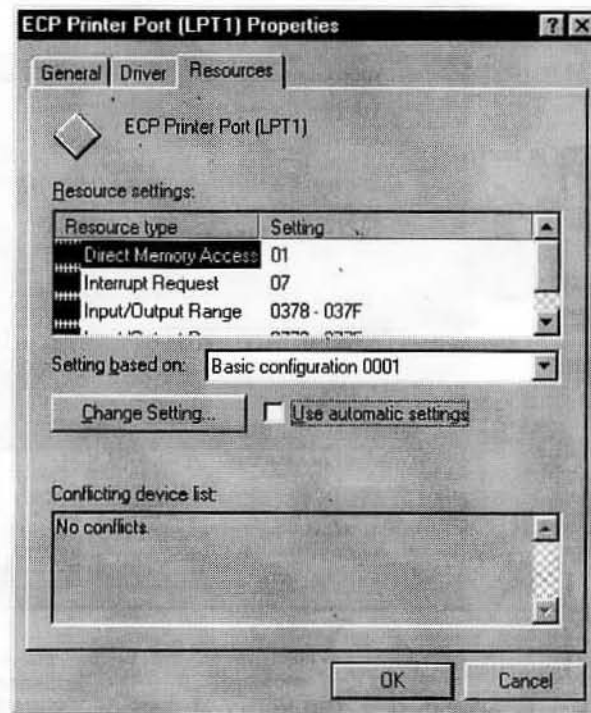

Figure 2-5
- Uncheck *Use automatic settings* check box (see Figure 2-5).